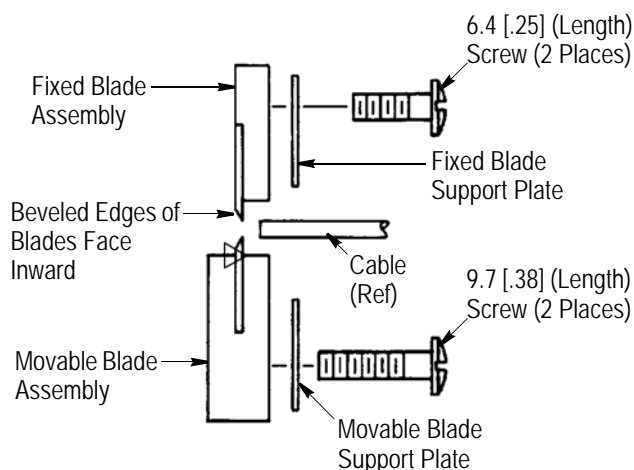

Figure 8
5.2. Adjusting Flat Oval Cable Stripper (Figure 8)
5.3. Replacing Flat Oval Cable Stripper Blades (Figure 8)